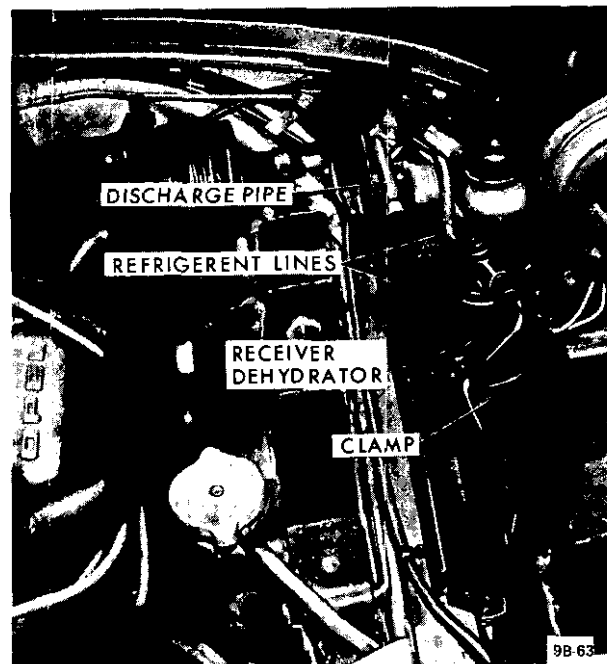

Figure 9B-86 Receiver-Dehydrator GT
3. Remove 2 screws securing receiver-dehydrator and clamps to support bracket and lift out receiver dehydrator. See Figure 9B-86.